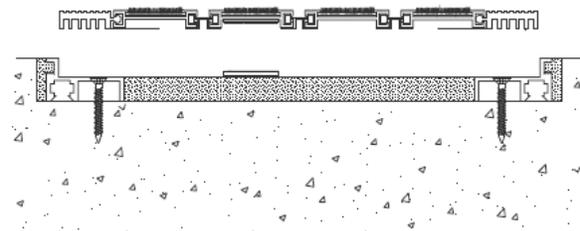

Figure 12
STEP 21. Select the lockdown plate. Place the lockdown plate into its installed position on the substrate, under the mat. Ensure that the lock strip on the lockdown plate is properly aligned with the flexible lock strip on the mat. Secure the lockdown plate to the floor with the fasteners provided by the factory (see Figure 12). The lock strip of the lockdown plate should fall directly under the installed flexible lock strip.